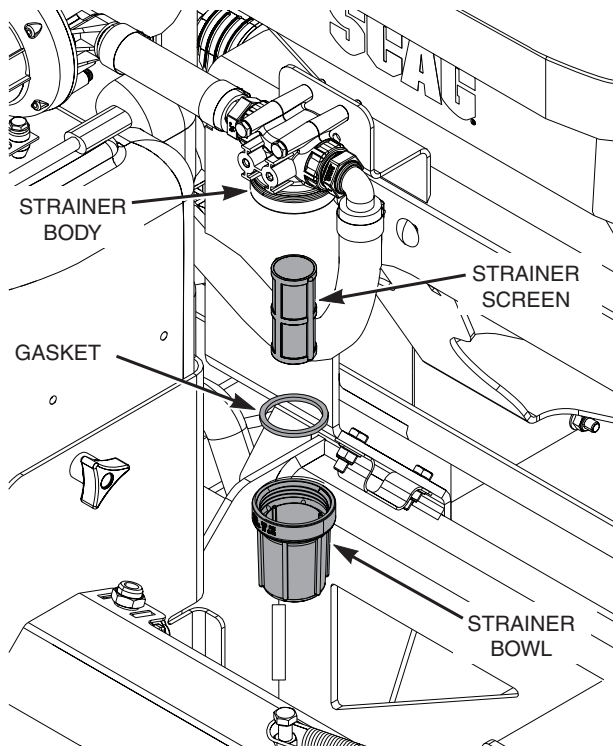

Figure 6-7. Removing the Strainer
3. Rotate the strainer bowl counterclockwise to remove the bowl, screen and gasket from the strainer body. See Figure 6-7.